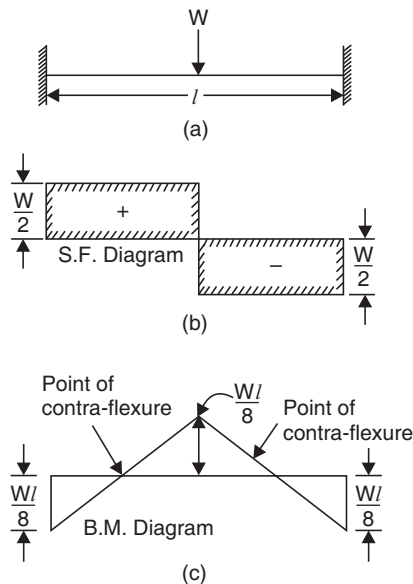

FIGURE 8.13
(a) **Fixed beam carrying a point load at the centre.** Figure 8.13 (a) shows a beam of span l carrying a point load (W) at the centre. The shear force and bending moment diagrams are shown in Figs. 8.13 (b) and (c) respectively.